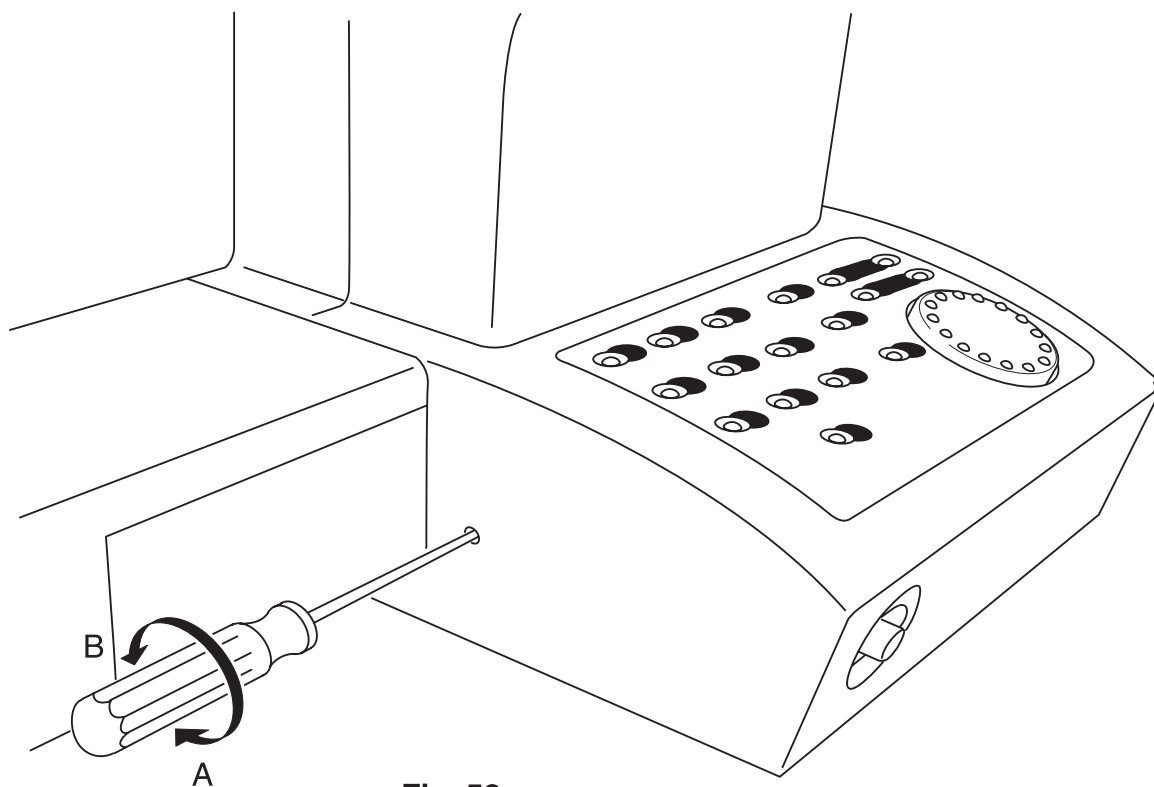

Fig. 58
- If a rhombus was sewn as seen in fig. 53, turn the adjusting eccentric just 2 - 4 degrees in direction "A" using a screwdriver, as shown in fig. 58.
If a rhombus was sewn as seen in fig. 54, turn the adjusting eccentric just 2 - 4 degrees in direction "B" using a screwdriver, as shown in fig. 58.
- If the linen buttonhole was sewn as seen in fig. 56, turn the adjusting eccentric 1 - 2 degrees in direction "A" using a screwdriver, as shown in fig. 58.
If the linen buttonhole was sewn as seen in fig. 57, turn the adjusting eccentric 1 - 2 degrees in direction "B" using a screwdriver as shown in fig. 58.